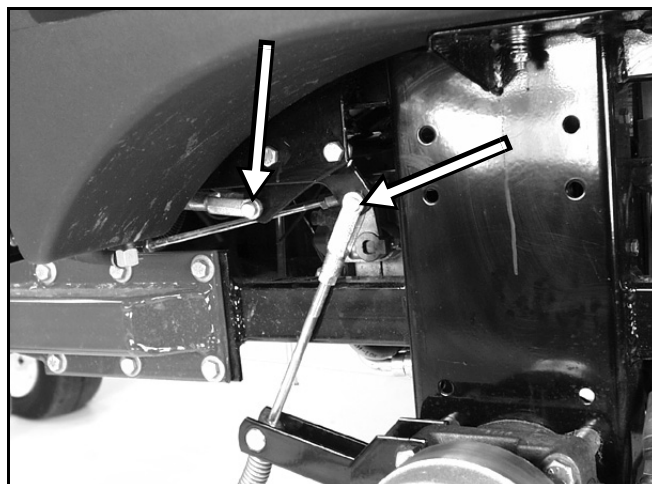

Figure 80
7. Remove the 3 clevis pins from the brake rods and remove the brake rods from the brake shaft (Figure 80). The third pin is on the opposite end of the brake shaft.